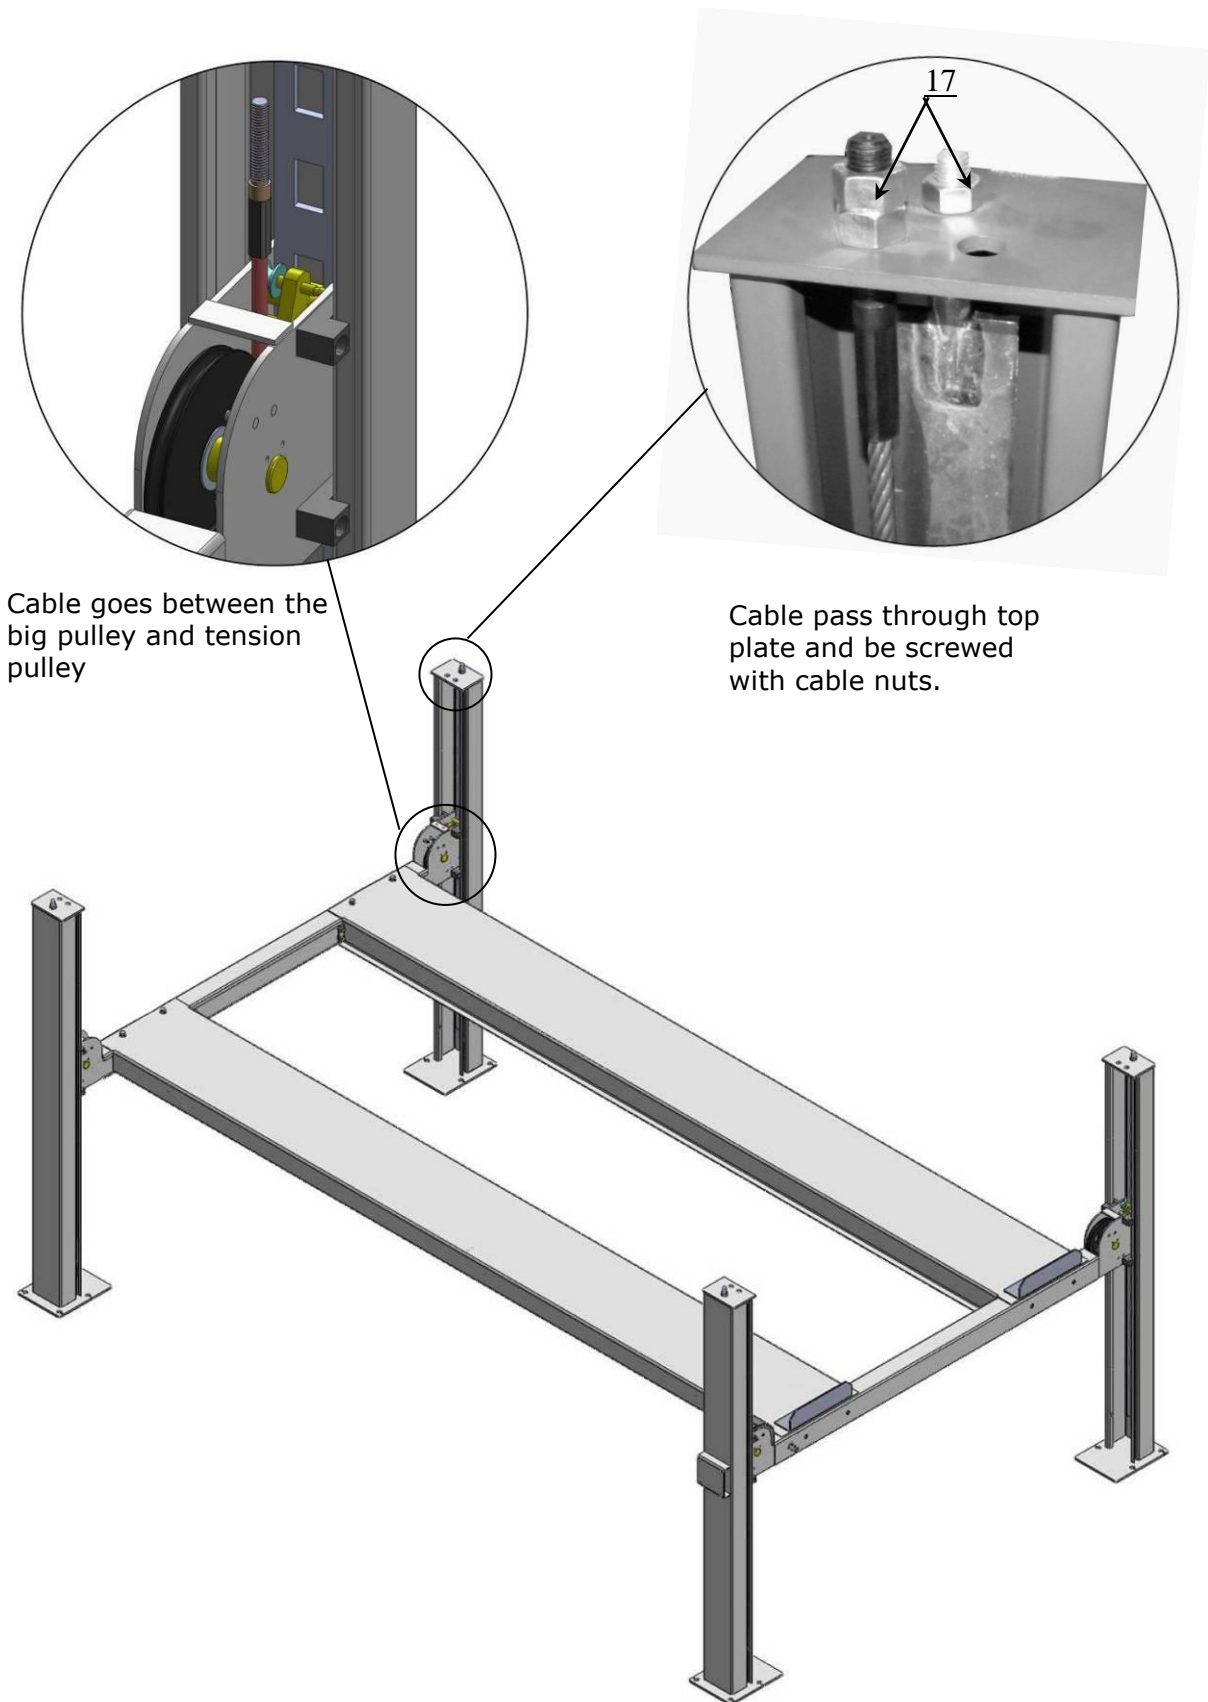

Fig. 20
2. The cable goes through the cross beam to top plate of columns and be screwed with cable nuts (**See Fig. 20**).